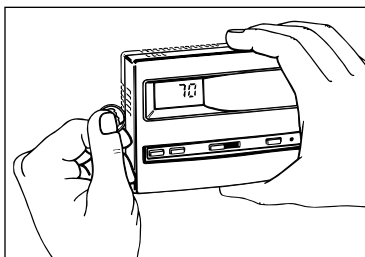

Figure 2
4. Remove the cover using a coin or screwdriver (Figure 2).